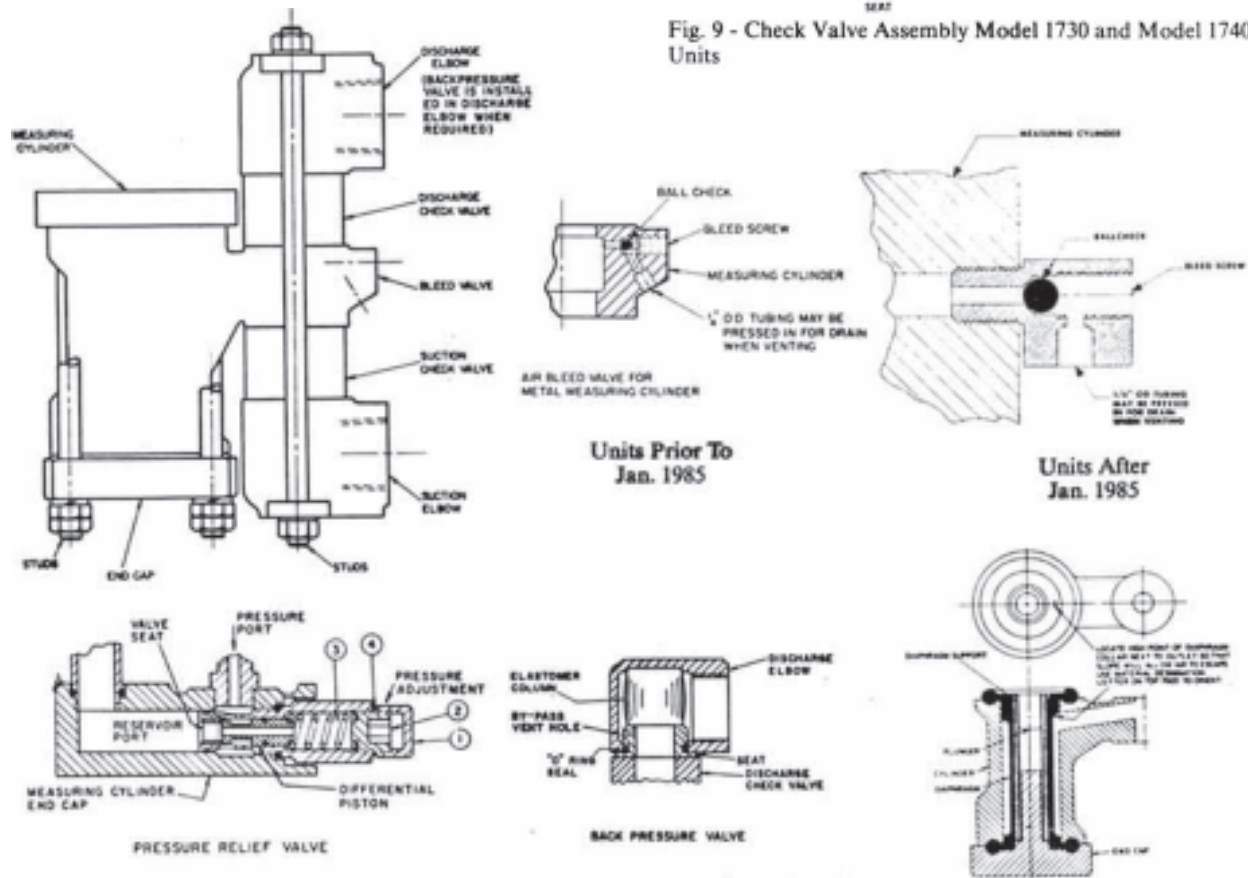

Fig. 8a - Components Of Liquid Ends (Metal) For Models 1730 & 1740
### Replacing Diaphragm (Refer to Fig. 8a or 8b)
**NOTE: Rotate diaphragm so that high point of air venting shoulder is adjacent to flow passage in cylinder. This can be determined by reference to the material code letter on the upper face of the diaphragm. See Fig. 8a.**
Back Pressure Valve – Optional (Refer to Fig. 8a or 8b)